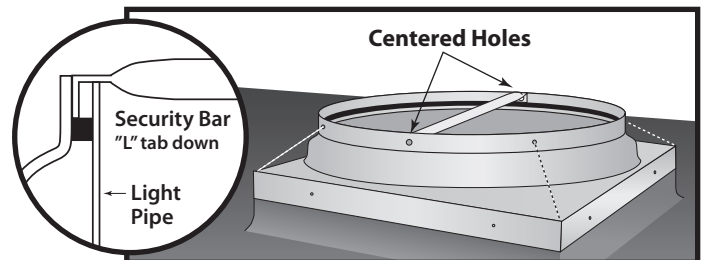

Figure 2
**Step 1** Locate the two large pre-drilled holes on the flashing lip. These holes are counter-sunk and large enough to accommodate the 3/16" rivets. (see Figure 2)
**NOTE:** On the curb-mount flashing there are 4 holes diagonally from the 4 corners of the of the curb box (see dashed lines on Figure 2) - these are NOT the correct holes.
**Step 2** With the "L" shaped tab facing down, line up the holes on the security bar to the larger, countersunk holes on the inside of the flashing lip. The "L" shaped tab should sit on top of the black horse hair gasket. (see Figure 2)